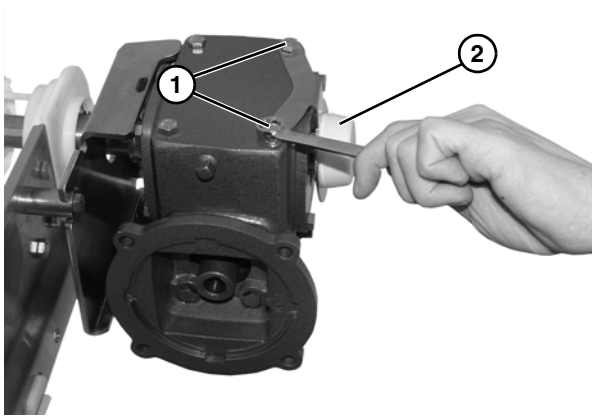

Figure 21
3. Remove two screws (**Figure 21, item 1**) and gear reducer output shaft cover and bracket (**Figure 21, item 2**).